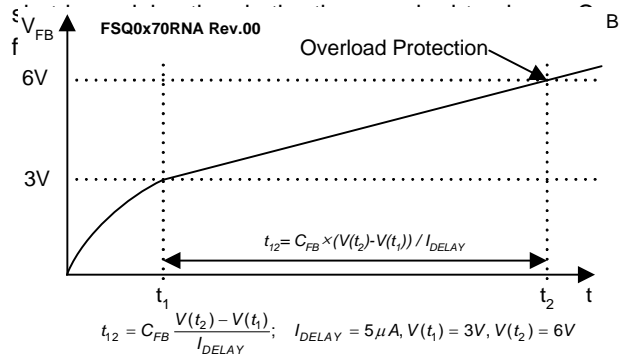

Figure 15. Overload Protection (OLP)
4.1 Overload Protection (OLP): Overload is defined as the load current exceeding a pre-set level due to an unexpected event. In this situation, the protection circuit should be activated to protect the SMPS. However, even when the SMPS is operating normally, the OLP circuit can be activated during the load transition. To avoid this undesired operation, the OLP circuit is designed to be activated after a specified time to determine whether it is a transient situation or a true overload situation. In conjunction with the I_{PK} current limit pin (if used), the current mode feedback path limits the current in the SenseFET when the maximum PWM duty cycle is attained. If the output consumes more than this maximum power, the output voltage (V_O) decreases below nominal voltage. This reduces the current through the opto-coupler LED, which also reduces the opto-coupler transistor current, thus increasing the feedback voltage (V_{FB}). If V_{FB} exceeds 3V, the feedback input diode is blocked and the 5 μ A current source (I_{DELAY}) starts to slowly charge C_{FB} up to V_{CC} . In this condition, V_{FB} increases until it reaches 6V, when the switching operation is terminated, as shown in Figure 15. The